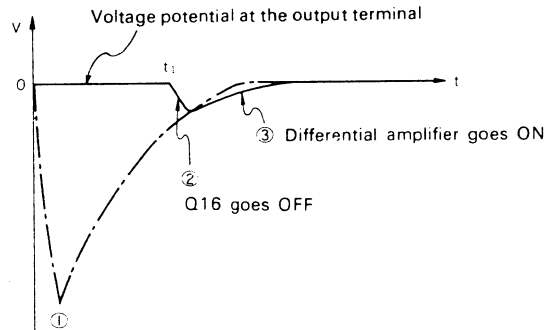

Fig. 1 Output terminal potential change
If there is no protection circuit, due to the bootstrap circuit consisting of C39, R55 and R57 and for C29, Q3 is turned on for a short time. As a result, Q1 in the differential amplifier is turned off and the output tends to be negative, after this the balance of the differential amplifier tends to be restored and the potential of the output returns to 0 as shown by the chained line ① in figure 1. Such a rapid and wide variation in potential results in output of shock noise.
These transistors remain OFF until the potential at point X drops below approximately 0.7V because of the delayed  $-V_B$ . Then Q16 will be OFF and the stages after the predriver will be ON. As Q16 is not turned off immediately, the delay indicated by ② in figure 1 occurs. Because of the integrator, the differential amplifier is turned on slowly to suppress shock noise as shown by ③ in figure 1.